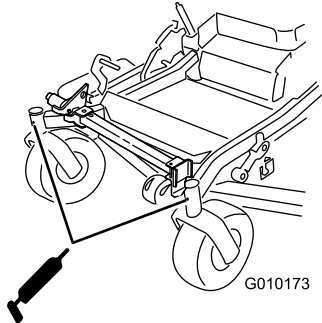

Figure 46
9. Remove the grease zerk in the hole. Install the hex plug and dust cap (Figure 46).